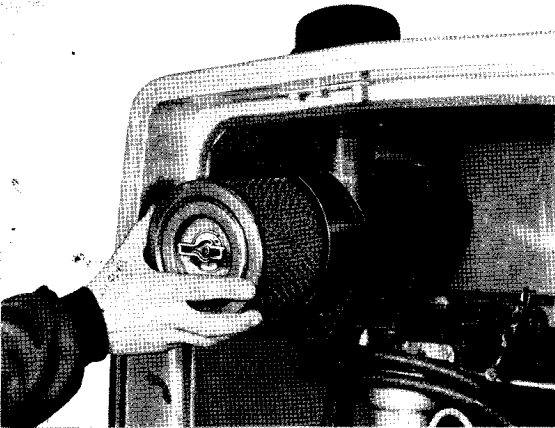

FIG. 12
3. Fig. 12. Unscrew the wing nut, then carefully slide out the main element.